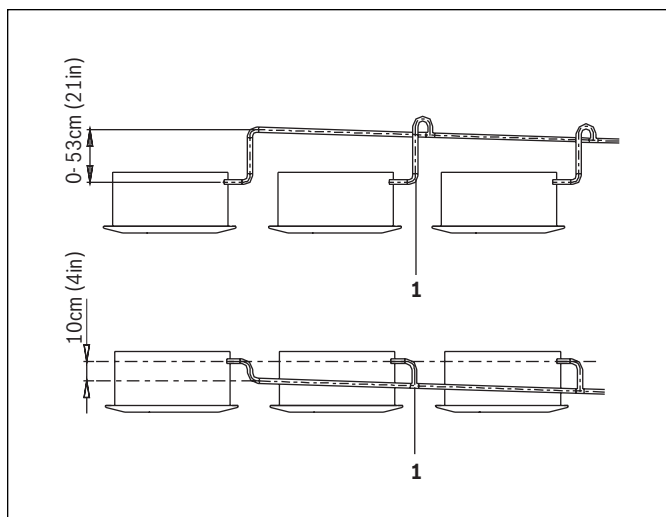

Figure 18
- Put approximately 1/4gal. of water into the drain pan through the fresh air intake. Make sure not to pour water over the drain pump or any electric parts including the drain pump. Method of adding water is shown below in figure 18.